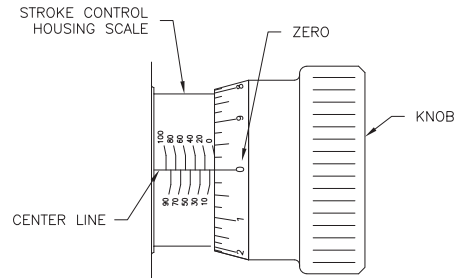

Figure 4-2. Stroke Control Alignment
- l. Start the three M6 screws (48), with Nylok™ patch, in the knob.
- m. Position the knob (47) over the stroke control housing with the zero graduation on the knob lined up with the center line of the stroke control housing scale, as shown in Figure 4-2.
- o. Slide the knob, if necessary, to align the scales as shown in Figure 4-2. Tighten the three M6 set screws (48) equally. Make sure the set screws that are used have a Nylok™ patch on the threads to prevent oil leakage.